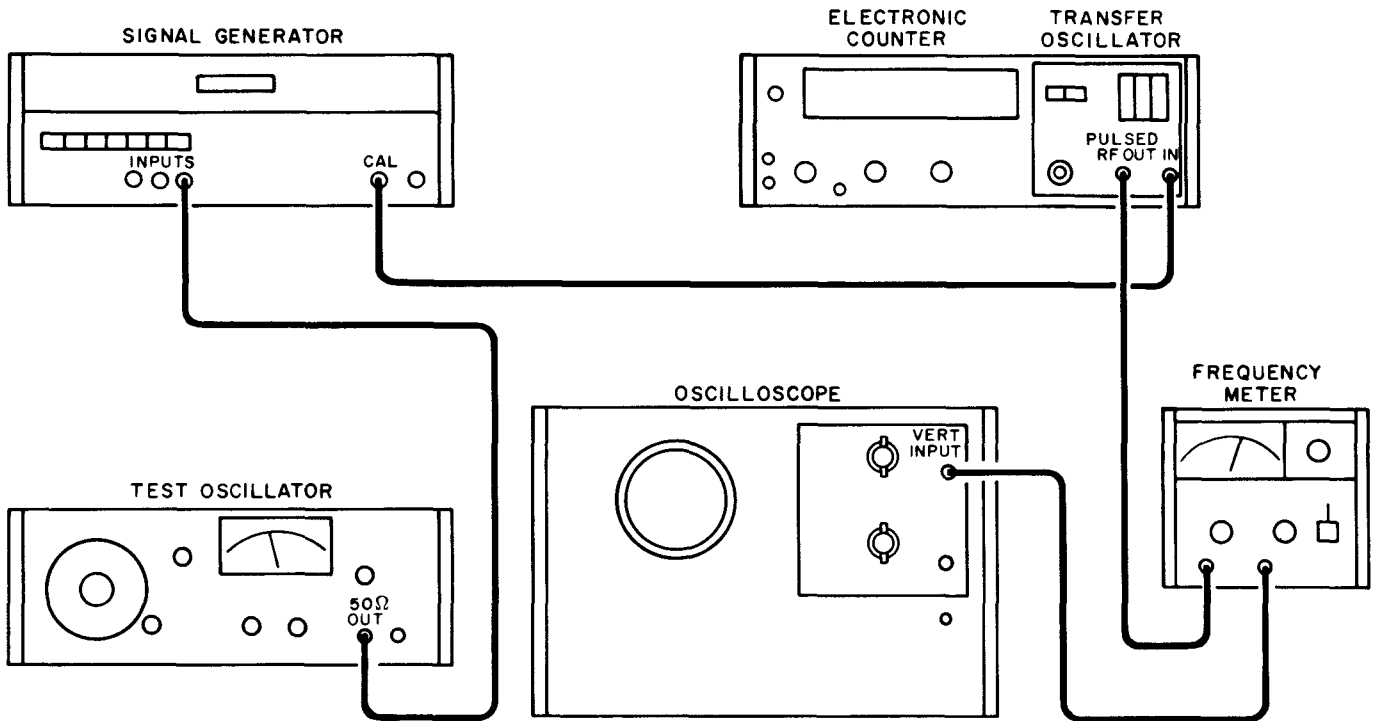

Figure 5-5. Residual and Incidental FM Check
- a. Connect instruments as shown in Figure 5-5, without the test oscillator in the setup.
- c. Connect instruments as shown in Figure 5-5, with the test oscillator in the setup.